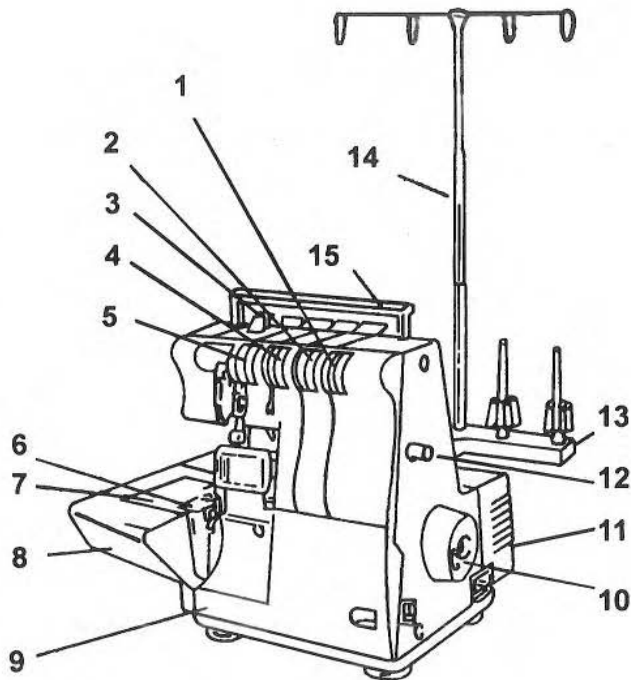

Figure 1
3. Threading the machine (Principal parts in figures 1 and 2)
6. Adjusting presser foot pressure. Figure 1 #3